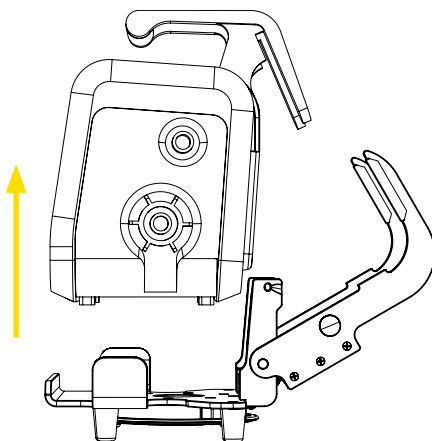

Figure 7: Removing the medical device from the Bracket Pro Serie 60 - SD
2. Using the handle, lift and pull the medical device upwards to remove it from the bracket (Figure 7). Set aside the medical device.